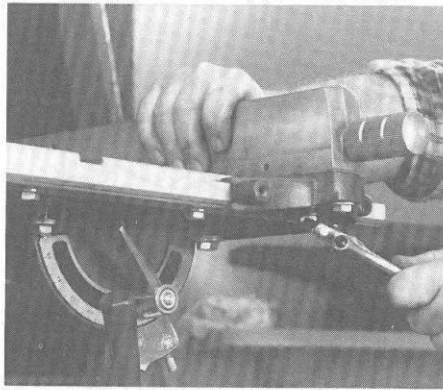

Figure 19. Loosen the two bolts that hold the fence to its base.
b. To **align** the rip fence, loosen the two bolts that hold the rip fence to its base **without** loosening the lock knob. (See Figure 19.) When the bolts are loose, loosen the knob approximately 1/8 turn, align the fence parallel with the miter gauge slot, and tighten the knob. Be sure that the fence has remained parallel to the slot, then carefully tighten the bolts.